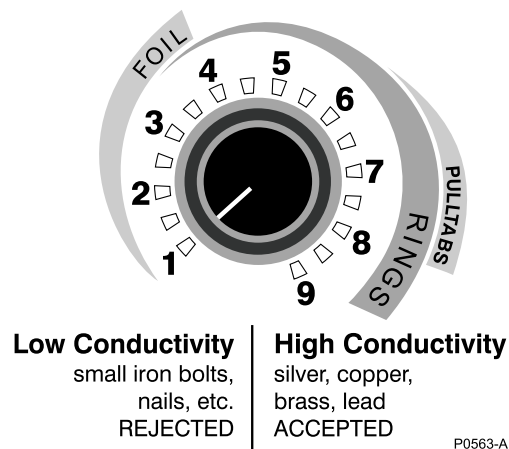

Figure 10 - Discrimination Level Adjust control examples
In “Discriminate” mode, the *Advantage* will discriminate most ferrous objects and only provide a signal for a non-ferrous object. If the Level Adjust is set to “1” as shown in Fig 10, page 14 (large ferrous objects may produce short “pops” or “clicks”). Non-ferrous objects will give a normal “signal beep” and be “accepted”.
The setting of the Discrimination Level Adjust is relative to the types of objects that you wish to hunt for, and the amount of trash that you are prepared to detect. If you do not want to dig old bottle caps but want to dig brass buttons or copper coins, the Discrimination Level Adjust control is set higher (approximately at number 7 in Figure 10) but most fine white gold rings, foil and some yellow gold rings will also be ignored.
- Turn the Discriminate control to approx. “1” position (Fig 10, page 14).